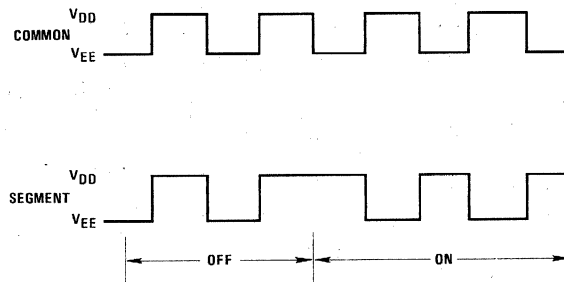

FIGURE 8. Common and Segment Output Signals
**Segment Outputs:** The Segment outputs are designed to drive field-effect liquid crystal displays. Each display segment has its own output which furnishes the proper 32 Hz drive signal. By definition, the segment is "OFF" when its drive signal is in phase with the display backplane signal (BP/32 Hz). The segment is "ON" when its drive signal is  $180^\circ$  out of phase with the display backplane signal. Typical output waveforms are shown in *Figure 8*.